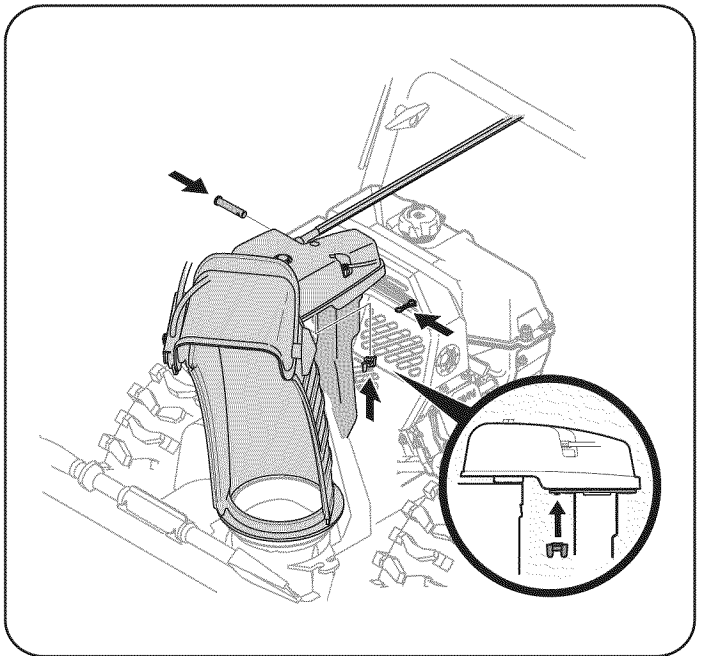

Figure 9
9. Finish securing chute control head to chute support bracket with wing nut, and clevis pin and bow-tie cotter pin removed earlier. Do not overtighten. See Figure 9.